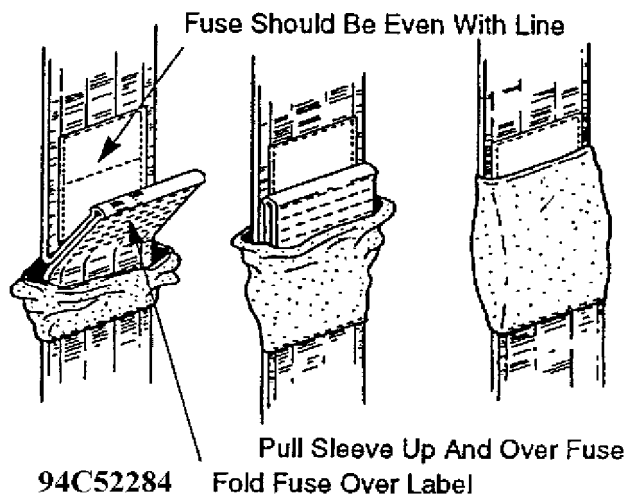

Fig. 2: Folding Seat Belt Fuse Over Caution Label
1. Fold the seat belt fuse over the caution label as shown in Fig. 2.